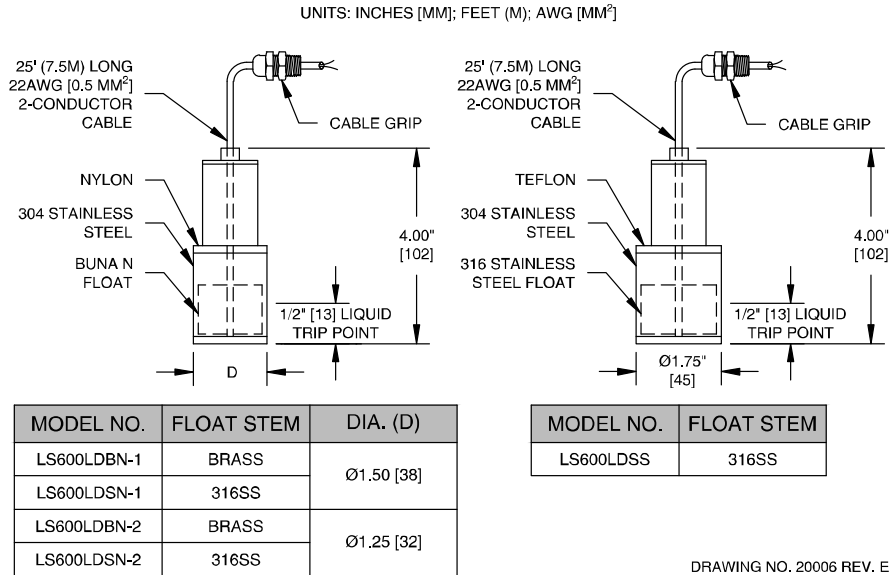
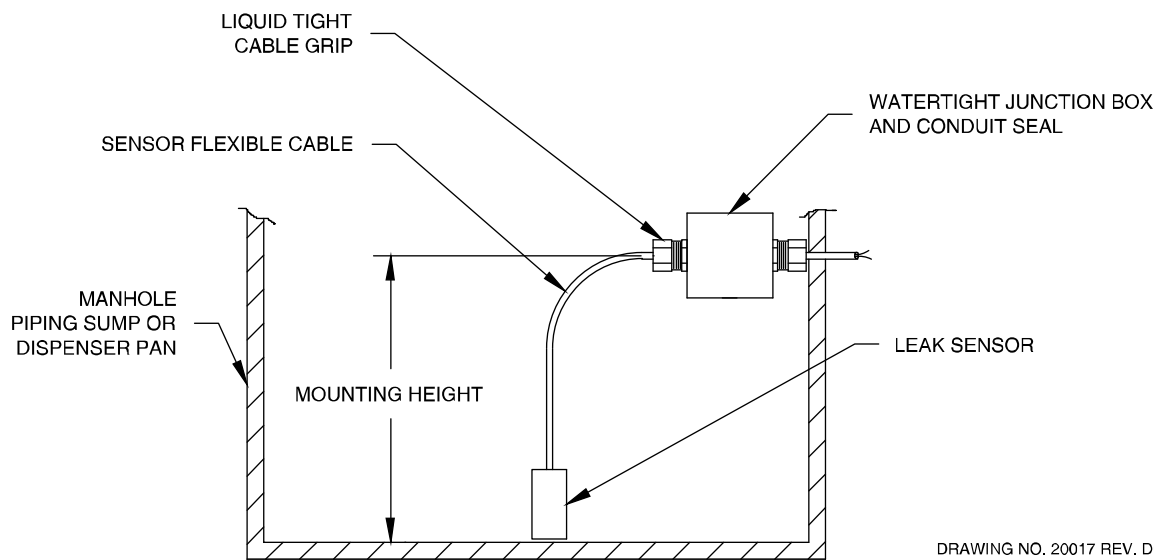

Figure 1-4 – LS600 LD Series
Figure 2-3 - Leak Sensor Installation in Piping Sumps, Manholes, and Dispenser Pans
As described in Section 1.1, the LC2000 will interface to all of the TMS series sensor model types, including discriminating and non-discriminating electronic or mechanical secondary containment leak sensors as well as single and multi-point level float sensors. Figures 1-4 through 1-8 show five (5) typical sensor types offered by Pneumercator. Other non-Pneumercator mechanical types may be used; however, their use with LC2000 should be approved prior to attempting to wire them into the system.
Check the specific design drawings for the job, or choose the sensor type desired from Figures 1-4 and 1-5. Install sensor per Figure 2-2 as follows:
Check the specific design drawings for the job, or choose the sensor type desired from Figures 1-4 and 1-5. Install sensor per Figure 2-3 as follows: